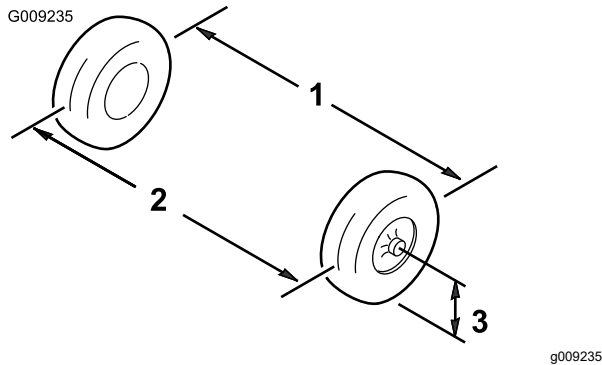

Figure 50
1. Measure the distance between both of the front tires at the axle height at both the front and rear of the front tires (Figure 50).